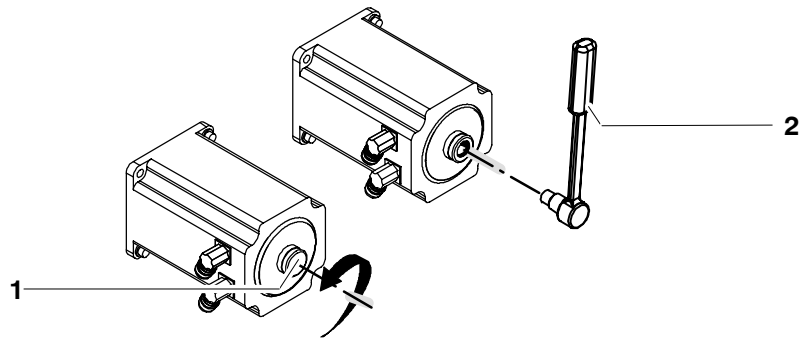

Fig. 58 Release device
- (1) Remove the protective cap (Fig. 58/1) from the motor.
- (2) Push the release device (2) onto the corresponding motor and move the axis in the desired direction.